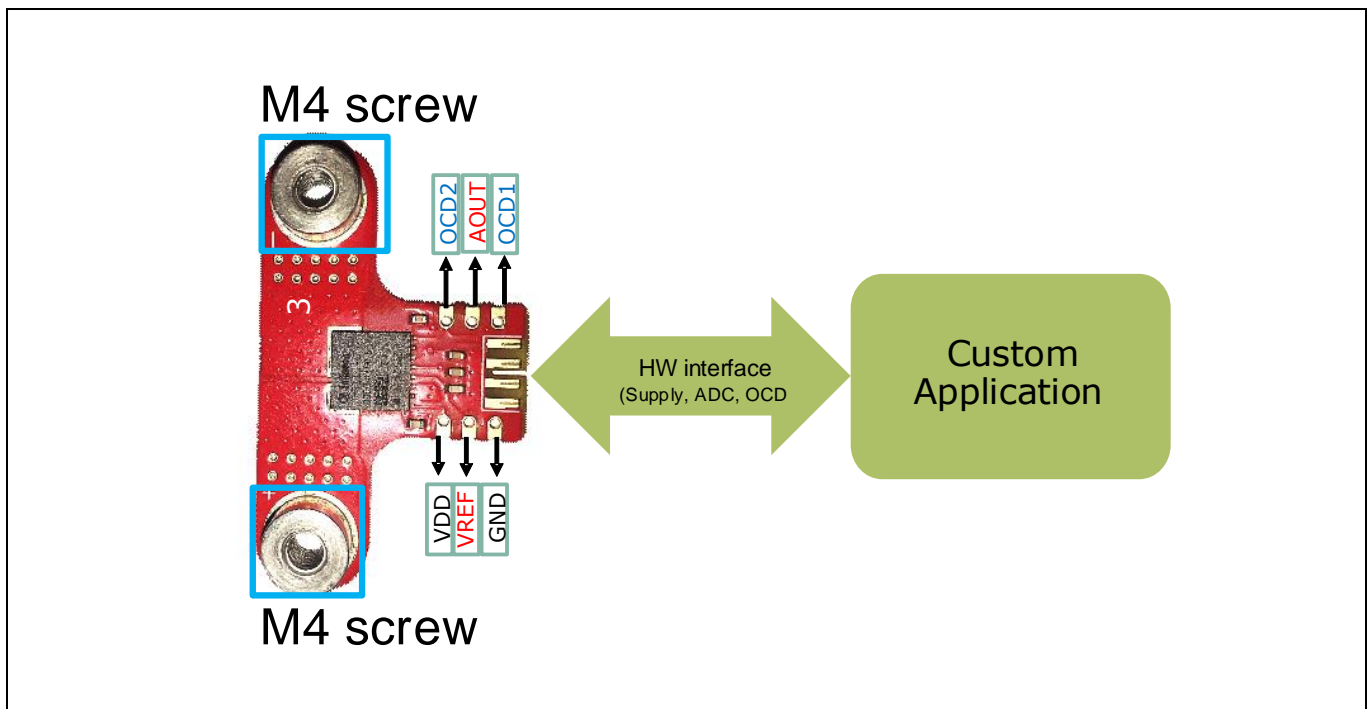

Figure 6 MS2Go or S2GO kit Use Case with Custom Platform
- Sensor board alone (See Figure 6)
The sensor board can also be used as standalone in any customer application (eg. Interfaced with custom MCU platforms, and lab equipment etc...). In Figure 6, M4 screws are used to connect the primary current source and VDD pin to 3.3V.